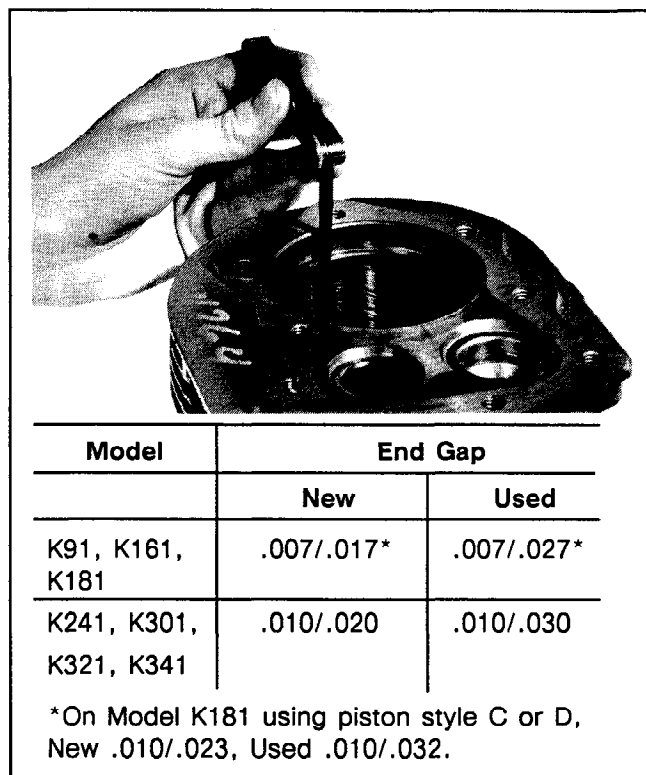

Figure 11-11. Measuring Piston Ring End Gap.
3. Before installing new rings on piston, place top two rings, each in turn, into its running area in cylinder bore and check end gap (see Figure 11-11).